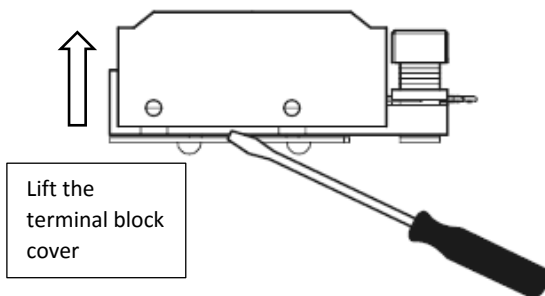

Fig3
- Remove the terminal access cover with the aid of a slotted screwdriver (see Fig 3)